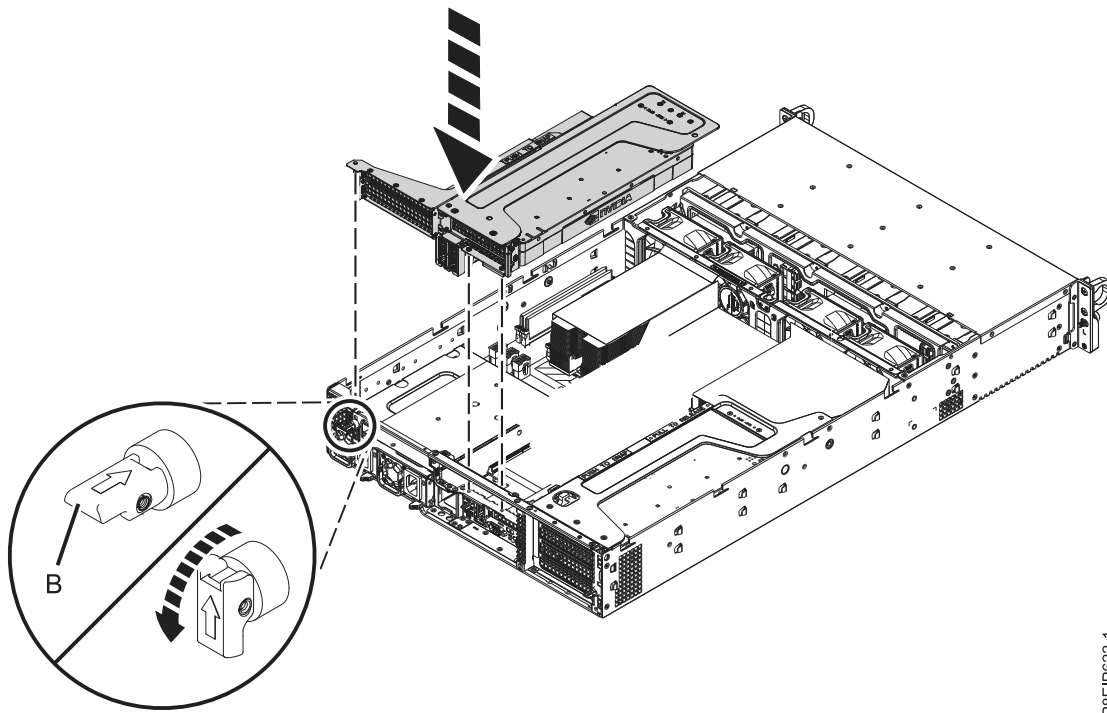

Figure 53. Inserting the position 1 and 3 riser
- g. Insert the PCIe riser into the chassis as shown in Figure 53 on page 43.
- 1) Retract the retaining pin (B) so the arrow points to the system.
- 2) Insert the riser, using the slots and alignment pins (A) to properly insert the riser. Push the riser firmly into the system backplane.
- 3) Set the retaining pin (B) to secure the riser.